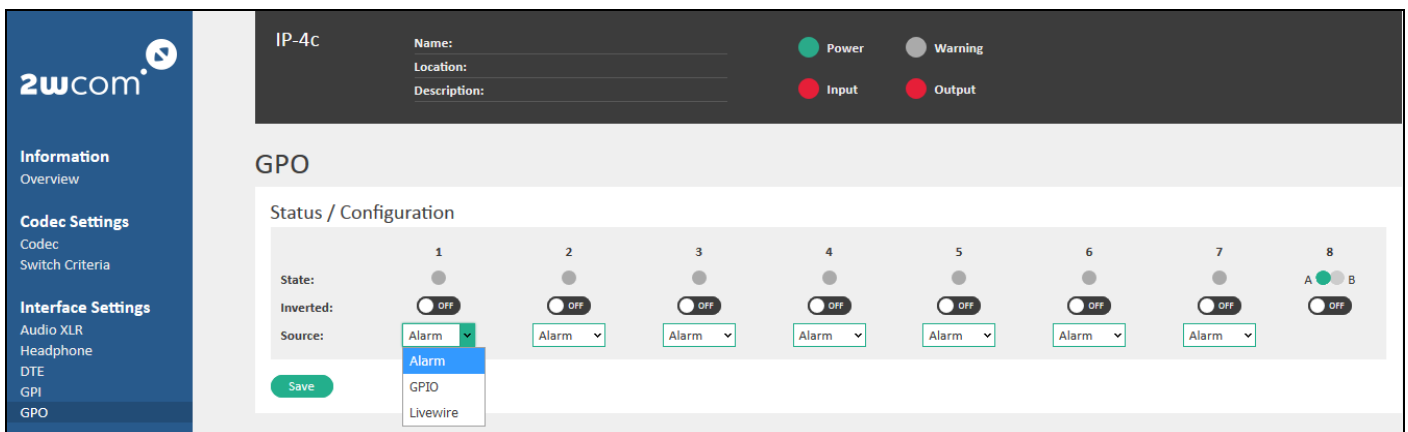

Figure 72: Interface Settings – GPO status
1. Open the menu “GPO” under **Interface Settings**→**GPO** (see Figure 72).